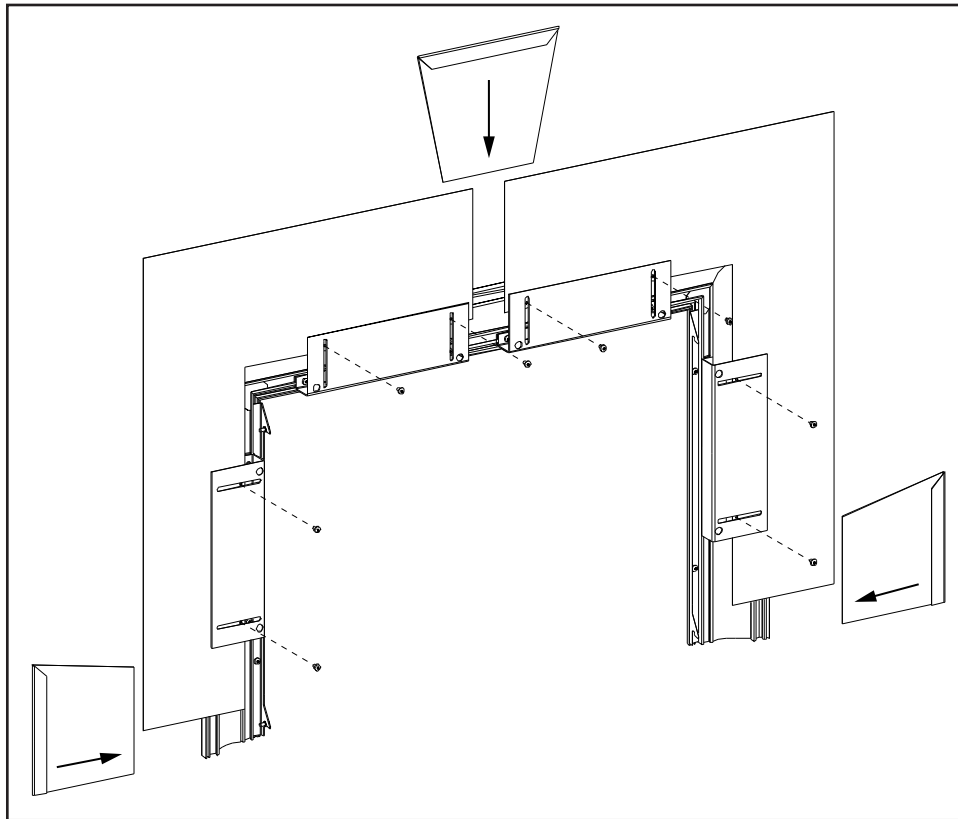

Figure 65: Installing Surround Corners, Keystone, & Covers.
11. Line the ends of the surround corners with the marks from step 9. Move the mounting brackets until the holes on the surround line up with the slots on the mounting brackets. When everything is lined up, secure the surround to the mounting brackets with eight (8) #8 T-20 screws (see Figure 65). Also tighten the eight (8) screws from step 9.
12. Center the keystone over the gap at the top of the trim and slide it into place. Slide the side covers over the bottoms of the sides so the cover will be as low as the trim (see Figure 65).